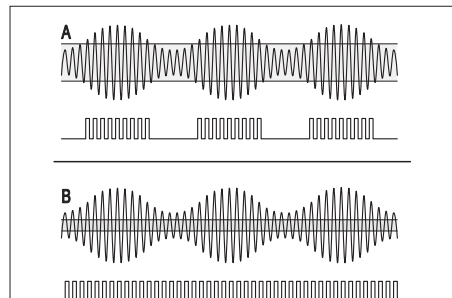

Fig. 4-8 Effects of different sensitivity when measuring the CW Frequency of an AM signal.
- If the counter triggers on noise, widen the hysteresis band with the ‘variable hysteresis’ function, i.e. enter a trigger level >0 V but $<V_{p-pmin}$. See Fig. 4-8.